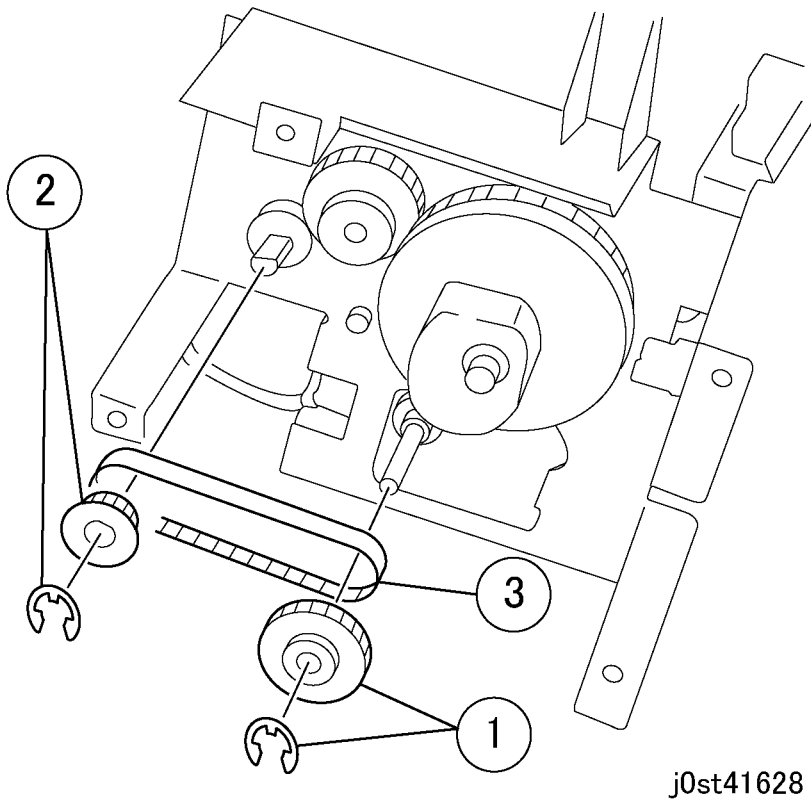

Figure 4 Removing the belt
5. Remove the belt. (Figure 4)